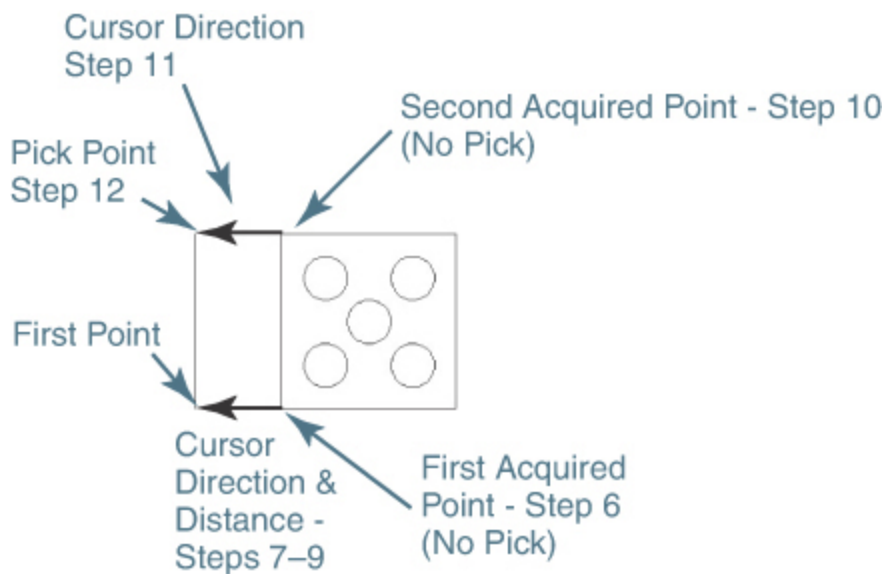

Figure 5-44
- 6 Place your cursor over the endpoints on the bottom-left corner of the square to acquire a point (see Figure 5-44).
pointing at 180° (see Figure 5-44).
9 AutoCAD uses direct distance entry to place a point 1 unit from the lower-left corner along the 180° horizontal extension alignment path (see Figure 5-44).
10 Place your cursor over the endpoints on the top-left corner of the square to acquire another point (see Figure 5-44).
11 Move your cursor to the left to display a horizontal alignment path and tooltip indicating you are pointing at 180° (see Figure 5-44).
12 Use **Ortho** mode to pick a point on the alignment path 90° from the first point (see Figure 5-44).
13 Save your drawing. Your drawing should look like Figure 5-44.